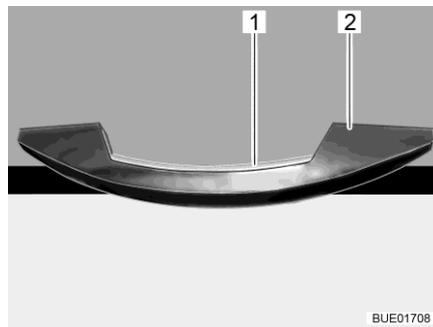
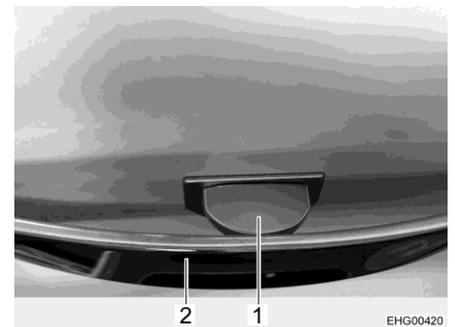

Fig. 52 Handle with unlocking bar (example)
Fig. 53 Handle with release tab
- Press and hold the unlocking bar (Fig. 52,1) or release tab (Fig. 53,1).
- Pull the handle (Fig. 52,2 or Fig. 53,2) until the furniture flap is open.